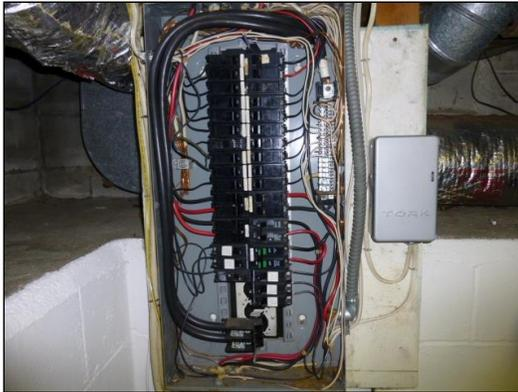
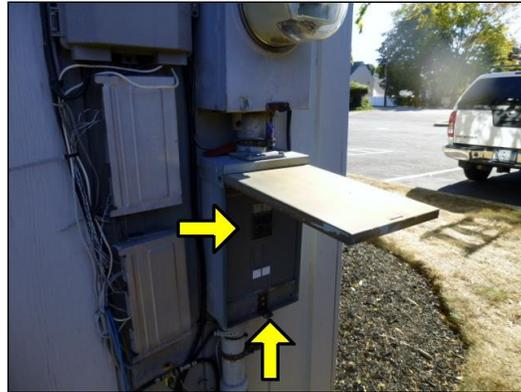

fig. 15
fig. 16
Electrical components have been updated, appear professionally installed, and are in functional condition. Electrical service consists of one (1) 225 amp copper service entrance cable servicing one (1) 225 amp main distribution panel located in basement (fig. 15). Electrical system 225 amp main disconnect breaker is located at west exterior wall meter pan (fig. 16). Installation of a pad-lock is advised to reduce risk of tampering.